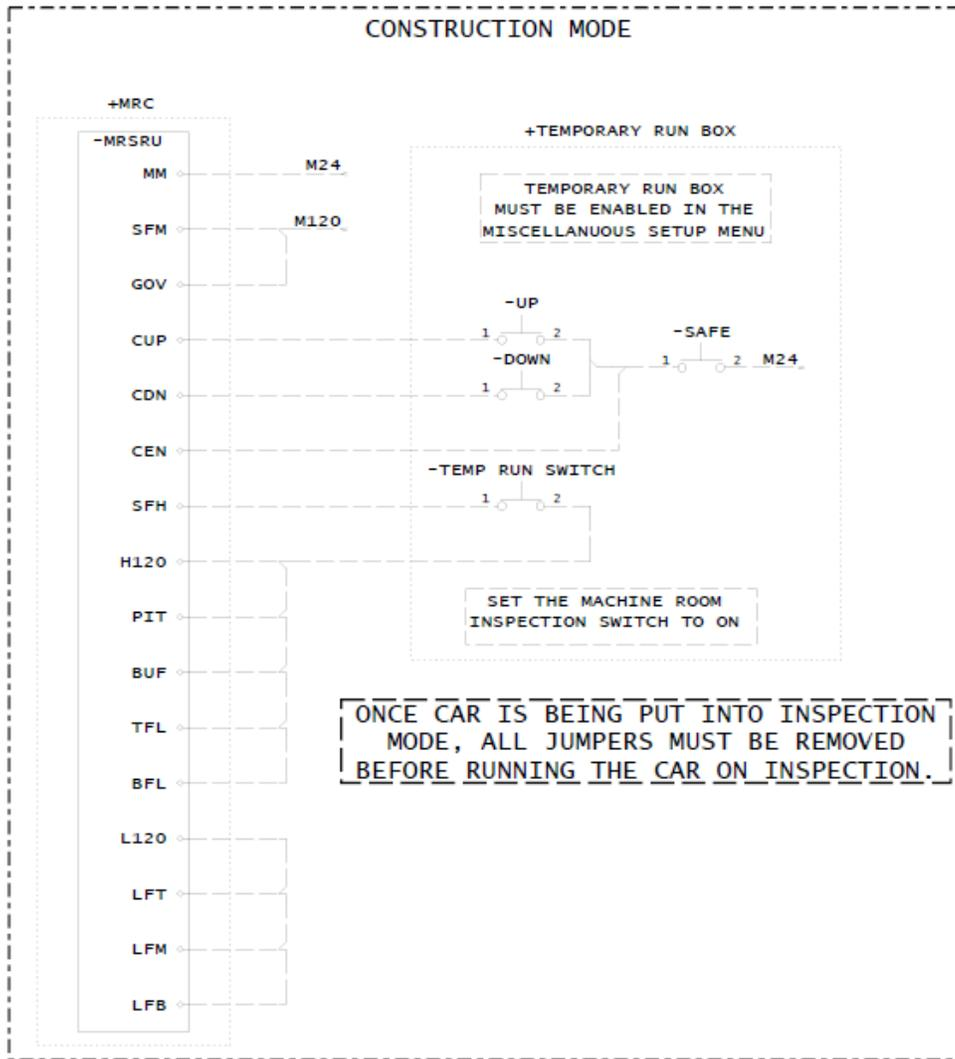

Figure 6: Example of Construction Wiring
- Figure 6: Example of Construction Wiring 8